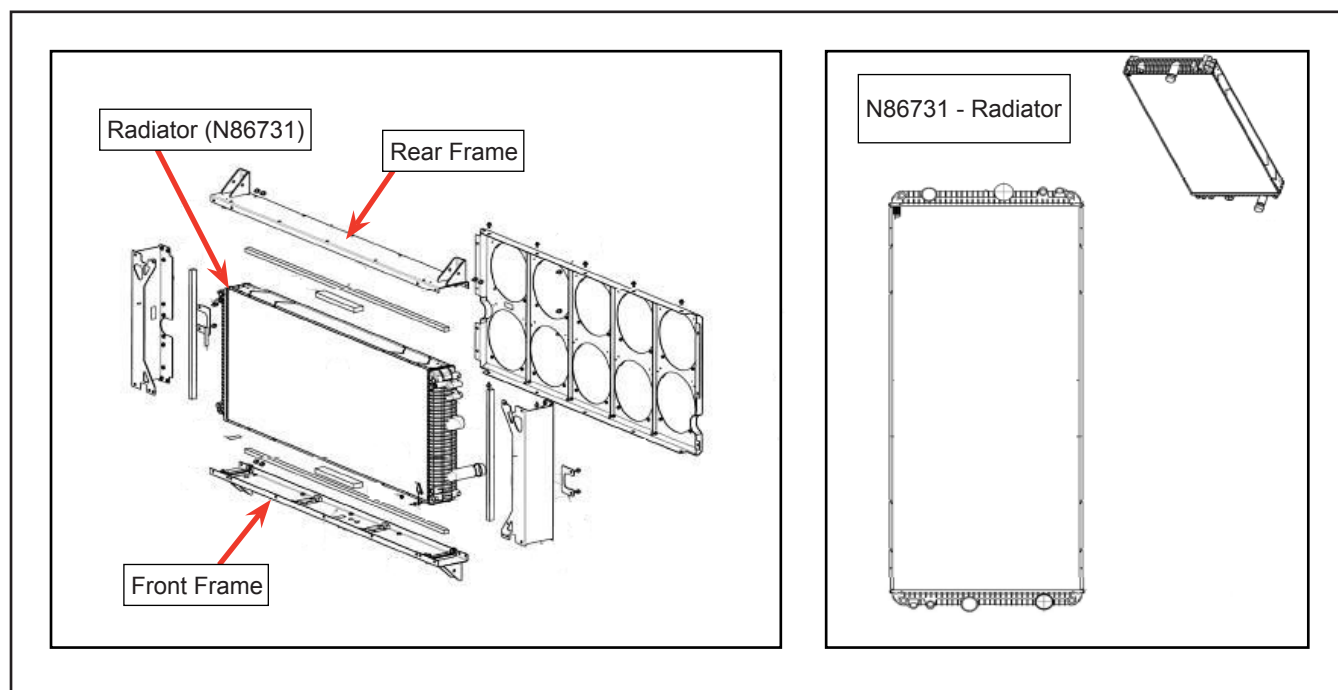

Figure 11 - Typical View of Installation of Radiator into Radiator Assembly Frame
1.29. Insert front and rear frame to grip the radiator (see Figure 11).